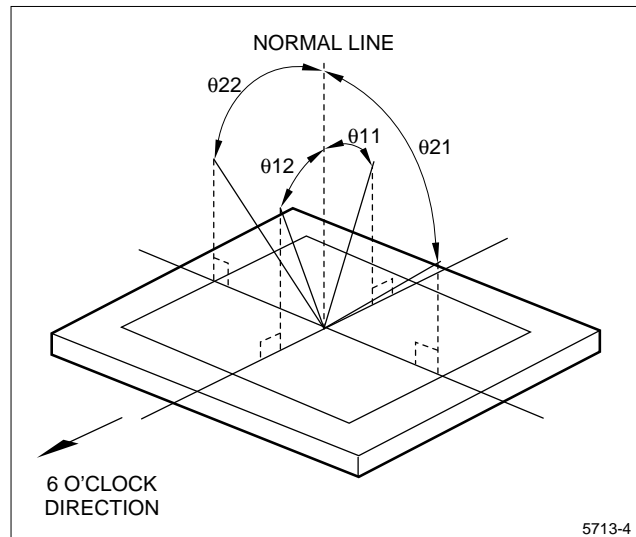

Figure 5. Definition of Viewing Angle
- Figure 5 shows the definitions of the viewing angle range.